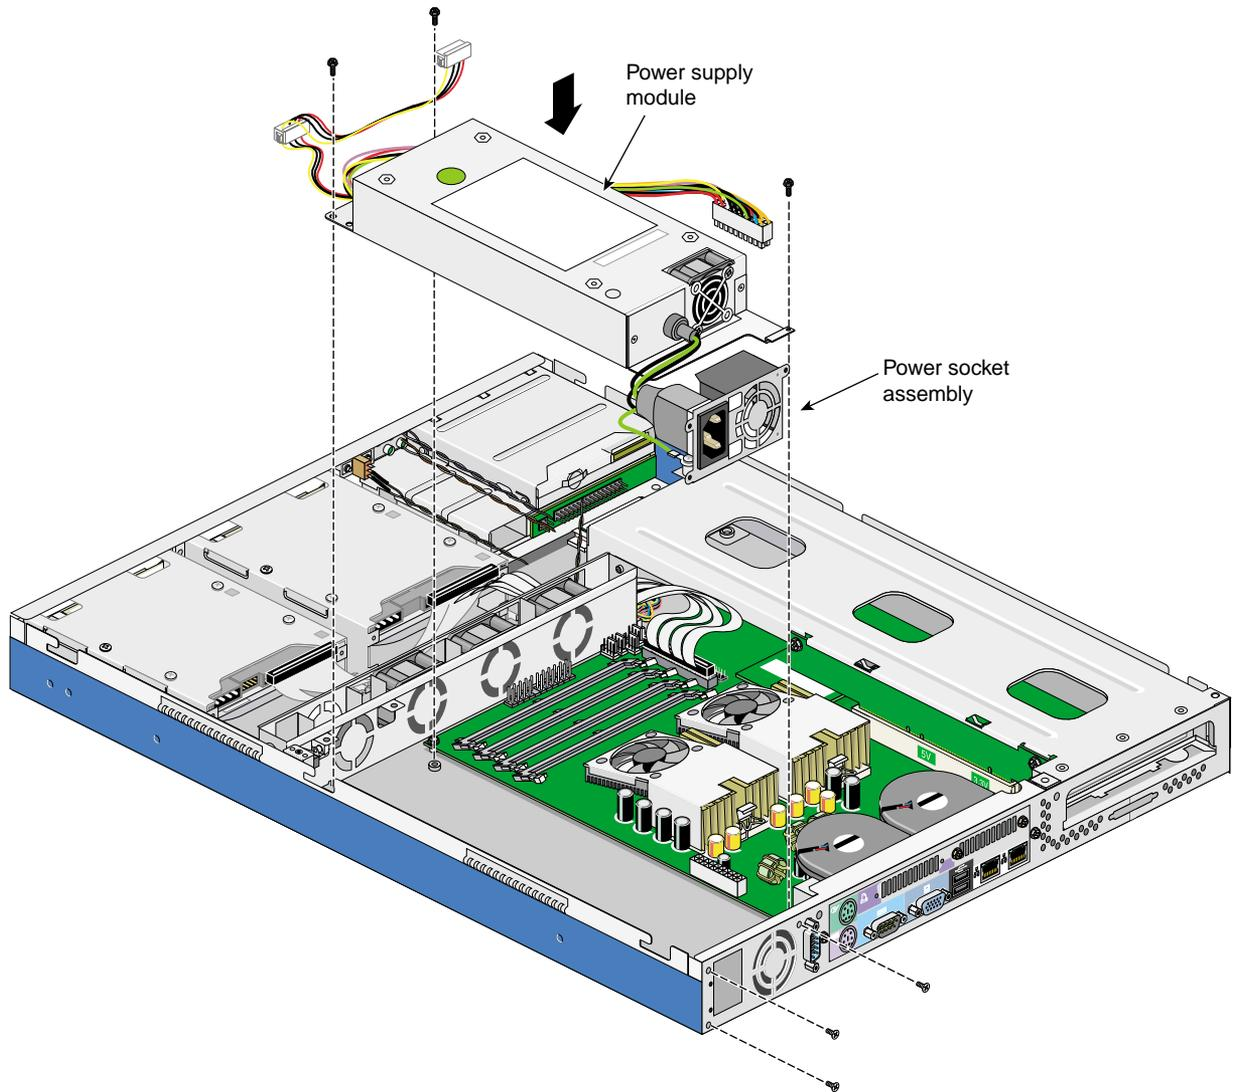

Figure 2-45 Installing the Power Supply Module
1. Place the power supply module in the chassis as shown in Figure 2-45.
2. Tighten three screws to attach the power supply socket module to the rear panel as shown in Figure 2-45.
4. Tighten three screws to secure the power supply module to the chassis as shown in Figure 2-45.